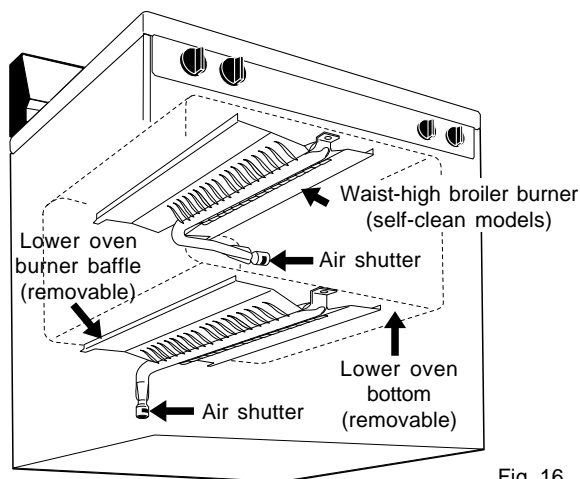

Fig. 16
- Remove the oven bottom (Fig. 16) by removing the screws at rear of oven bottom. Lift up the rear of oven bottom and slide toward back of range to disengage from front of oven front frame.
- Observe the flame to determine if the broiler burner flame is properly adjusted. It should be steady with approximately 1" blue cones and no yellow or orange flame tips (See Fig. 16).